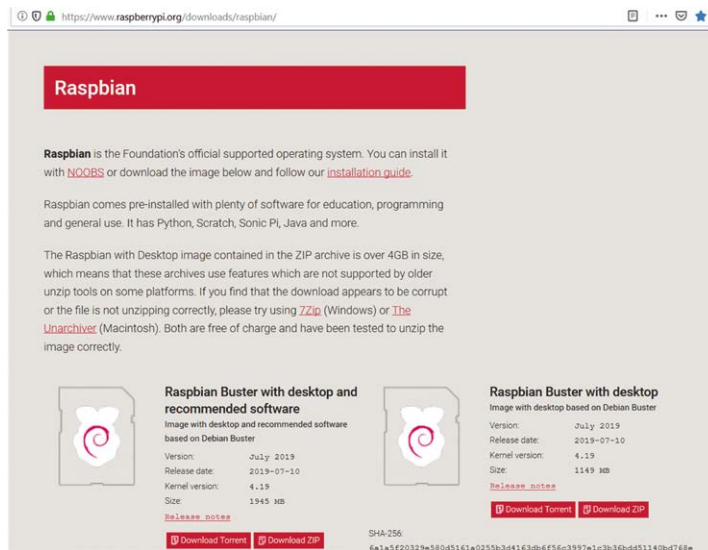

Figure 3.3 Raspbian Buster download page
- Download the Buster image to a folder on your PC (e.g. C:\RPiBuster) from the following link by clicking Download ZIP under section **Raspbian Buster with desktop and recommended software** (see Figure 3.3). At the time of writing this book the file was called: **2019-07-10-raspbian-buster-full.img**. You may have to use the Windows 7 Zip software to unzip the download since some of the features are not supported by older unzip software.